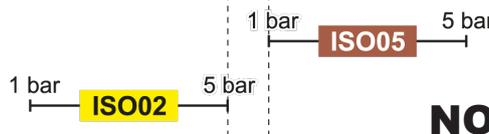

Fig. 134
• **NON-compatible nozzles:** the flowrate at 1 bar of the ISO05 nozzle is HIGHER than the flowrate at 5 bars of the ISO02 nozzle (Fig. 134).